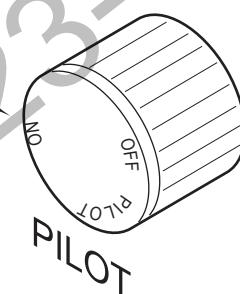

Figure 44 -
Depress and turn the knob counterclockwise ↙ to the “ON” position. *Figure 44*. It will take less than four (4) seconds for the burner to ignite.